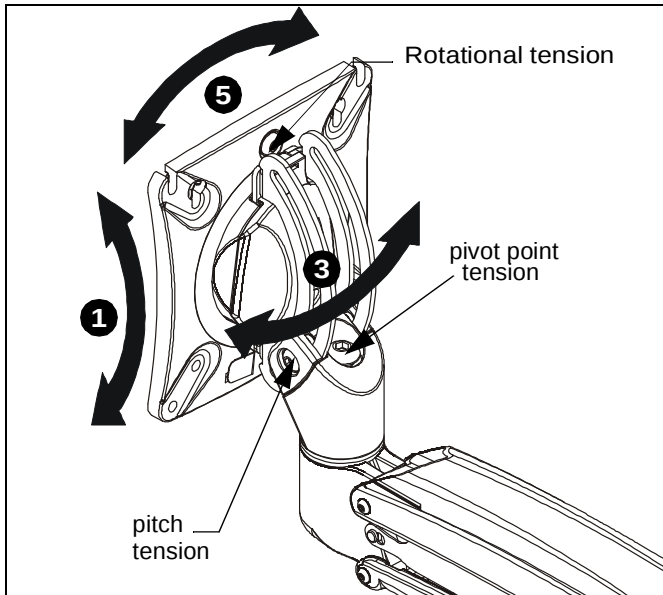

Figure 17
1. Adjust pitch to desired tilt position. (See Figure 17)
2. Adjust pitch tension screw to change the adjustment tension. (See Figure 17)
3. Adjust pivot position as desired. (See Figure 17)
4. Use 3/16" hex key (P) to adjust pivot point tension screws to change pivot adjustment tension. (See Figure 17)
6. Use 3/16" hex key (P) to adjust rotational adjustment screw to adjust rotational tension. (See Figure 17)
5. The monitor may be adjusted 90 degrees in either direction in order to provide a portrait view of the monitor. (See Figure 17)